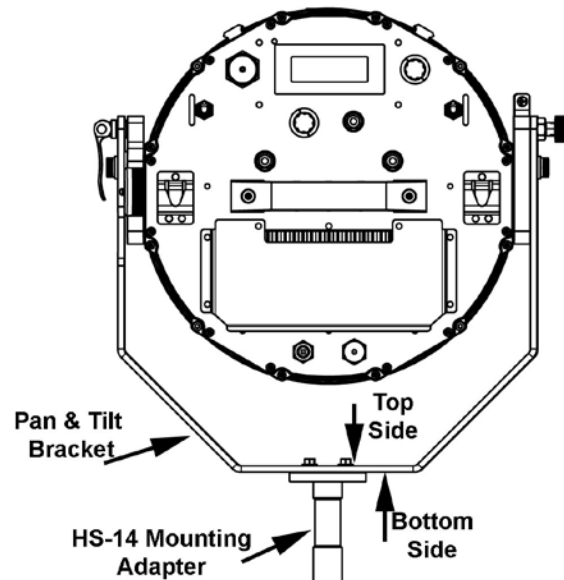

Figure 2.2-1 Mounting Adapter Installation
3. Position the mounting adapter on the bottom of Pan & Tilt bracket as shown in Figure 2.2-1 ensuring that the holes line up with the holes in the Pan & Tilt bracket.